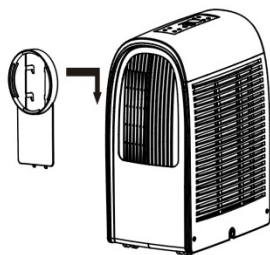

Fig.02
2. As shown in "Fig.02", slide the heat clip connector onto the cooling outlet side of the unit.